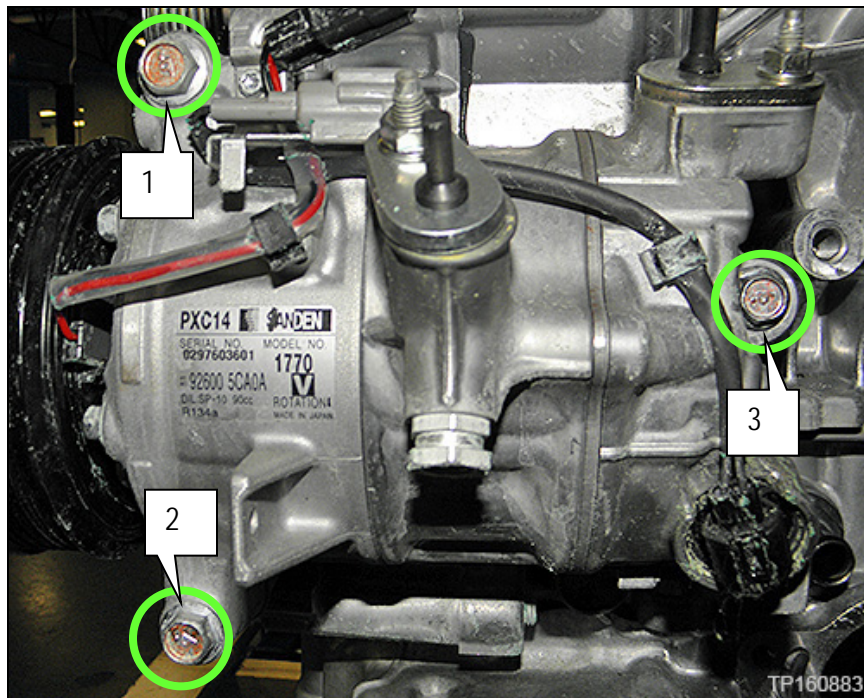

Figure 11
12. While holding the A/C compressor toward the rear of the vehicle, tighten the A/C compressor mounting bolts in the order shown in Figure 11 to 5 N•m, (0.51 kg-m, **44 in-lb**).
13. Torque the A/C compressor mounting bolts to 30.9 N•m, (3.2 kg-m, **23 ft-lb**) in the order shown in Figure 11.